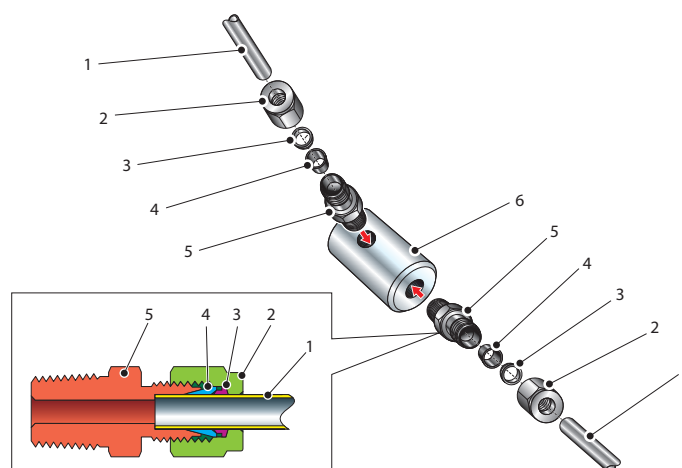

Figure 12 Sample Block Gas Connections
Sample gas connections are made to the Gas In and Gas Out ports on the sample block see *Figure 12*. Either port on the sample block may be used as the Gas Input port (i.e. for connection purposes the ports are interchangeable).
Both the Input and Output gas connections are  $\frac{1}{8}$ " NPT. It is recommended that both the Gas Input and Output connections are made via  $\frac{1}{8}$ " NPT to 6mm or  $\frac{1}{8}$ " NPT to  $\frac{1}{4}$ " stainless steel tube adaptors (2 to 5 - Figure 12). The method of connection to the sensor block (6) is as follows:
1. Cut a suitable length of  $\frac{1}{4}$ " U.S. 6mm (6mm) stainless steel tubing (1) to the correct length and, if necessary, bend to shape to suit the location of the sensor block assembly. **NOTE: To facilitate ease of connection to the port, at least 3" (75mm) of the tubing coming out of the Gas In port must be straight.**
3. Screw the  $\frac{1}{4}$ " U.S. ( $\frac{1}{8}$ " NPT) NPT Swagelok adaptor (5) into the  $\frac{1}{4}$ " U.S. ( $\frac{1}{8}$ " NPT) NPT inlet port in the sensor block (6) and tighten to a torque setting of 25 lbf-ft (35 Nm).
4. Pass the stainless steel tubing (1) through the locking nut (2). **NOTE: Threads towards the gas port.**
5. Fit the back ferrule (3) over the stainless steel tubing (1) with the bevelled end facing the back of the front ferrule (4).
6. Place the front ferrule (4) over the stainless steel tubing (1), bevelled end towards the adaptor (5).
7. Push the stainless steel tubing (1) as far as it will go into the adaptor (5) and tighten up the locking nut (2) finger tight.
8. Hold the adaptor (5) flats with a wrench and tighten up the locking nut (2) to a torque setting of 25 lbf-ft (35 Nm) ( $1\frac{1}{4}$  turns). This action compresses the front ferrule (4) and back ferrule (3) onto the tubing to form a gas tight seal.